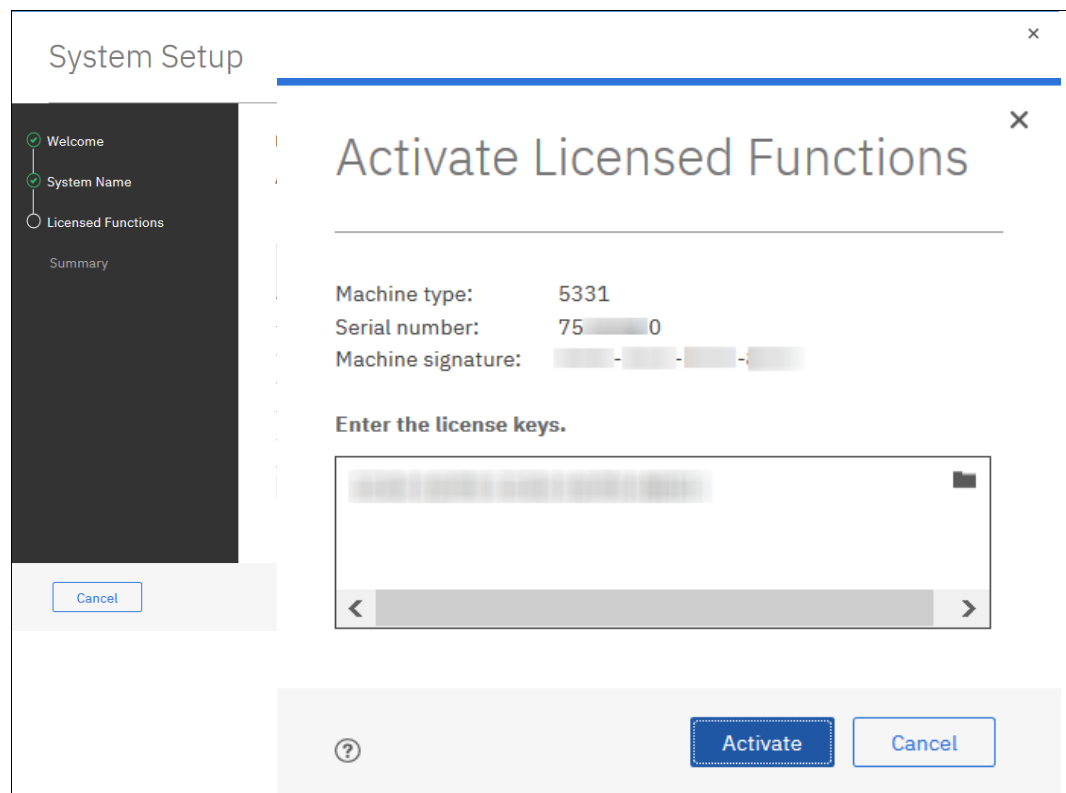

Figure 9-6 System Setup: Enabling Licensed Functions
4. When the license keys are entered, click **Activate** to enable the functions, as illustrated in Figure 9-6.